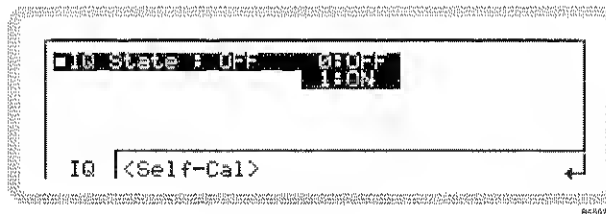
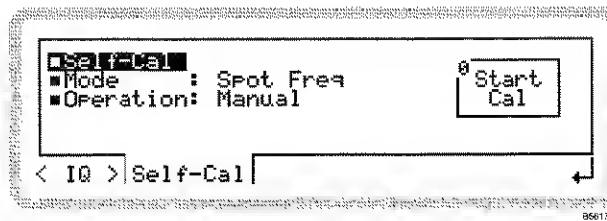

Fig. 3-27 Internal IQ
Fig. 3-28 Self-calibration
- 2 Press **SIG GEN** to show the main screen, and touch the **IQ** soft box to select the function. Touch **IQ** and press **<Self-Cal>** to view the internal IQ modulation menu (Fig. 3-27).
From the internal IQ menu of Fig. 3-27, touch <Self-Cal> or press **<TAB>** to display the self-calibration screen (Fig. 3-28).